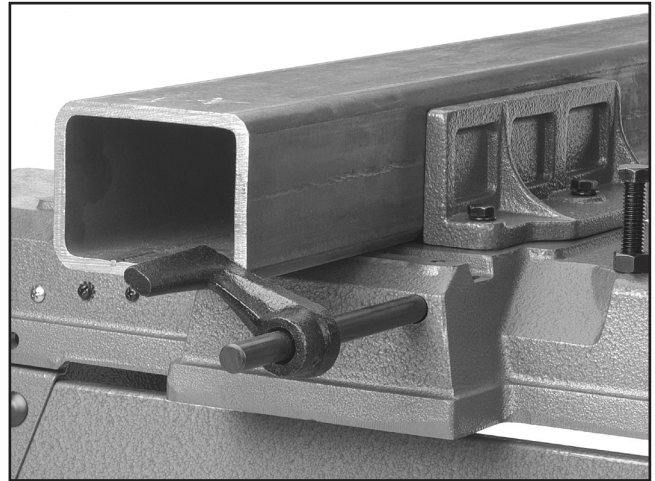

Figure 34. Using the work stop.
- Use the work stop to quickly and accurately cut multiple pieces of stock to the same length (see **Figure 34**).